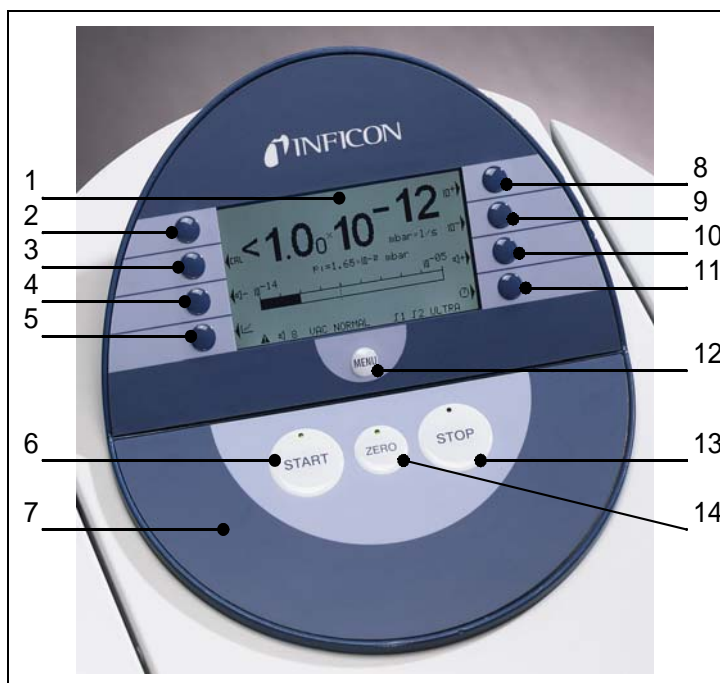

Fig. 4-2: Control Panel
The **Control Panel** Fig. 4-2/7 contains a liquid crystal display (LC Display), the **START**, **STOP**, **ZERO** and **MENU** buttons and also eight Soft Keys for the different menus and inputs.
The **LC Display** Fig. 4-2/1 is the communication interface to the operator. It displays the leak rates, the status report of the machine, messages, warnings and errors.
Pushing the **START Button** Fig. 4-2/6 enables the UL5000 to start the measure procedure. If the START button is pushed again in measurement mode, the maximum leak rate indicator („hold“ function) is activated. This indicator shows the maximum leak rate between „START“ and next „STOP“
Pushing the **STOP Button** Fig. 4-2/13 interrupts the measure procedure. If the button is pressed longer the inlet is vented according to the conditions defined in the menu **Vent delay**. See Chapter 6.6.1.2 **Vent delay** to select the time parameters of the venting.
Pushing the **ZERO Button** Fig. 4-2/14 enables the zero mode.
The menu appears on the LC Display after pushing the Fig. 4-2/12 during any working mode.
The function of the eight Soft Keys Fig. 4-2/2 ... /5 and /8 ... /11 depends on the current menu. Only key 1 and 8 very often have the functions *Back/Cancel* (Softkey no. 1) and *OK* (Softkey no. 8.).
- Soft Keys no. 1 Fig. 4-2/2 is *Cancel*.
- Soft Keys no. 8 Fig. 4-2/11 is *OK*.